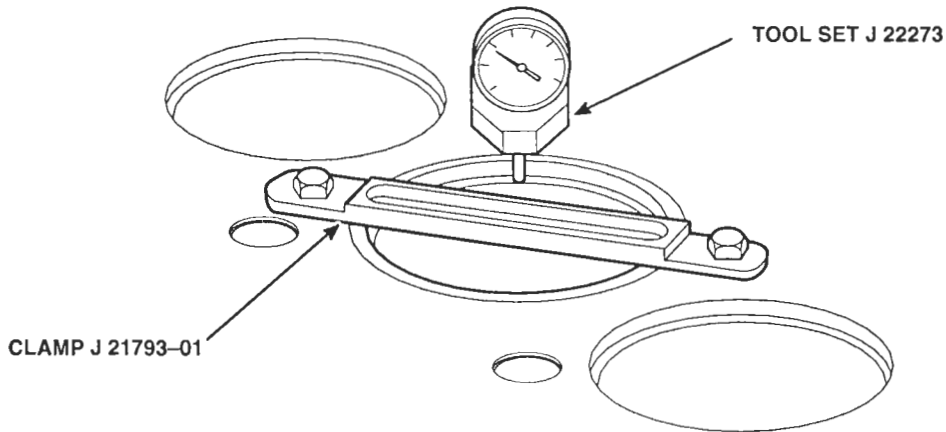

Figure 8. Checking Distance of Linear Flange Below Top Face of Block
4. Install a cylinder liner hold-down clamp (Figure 8.)